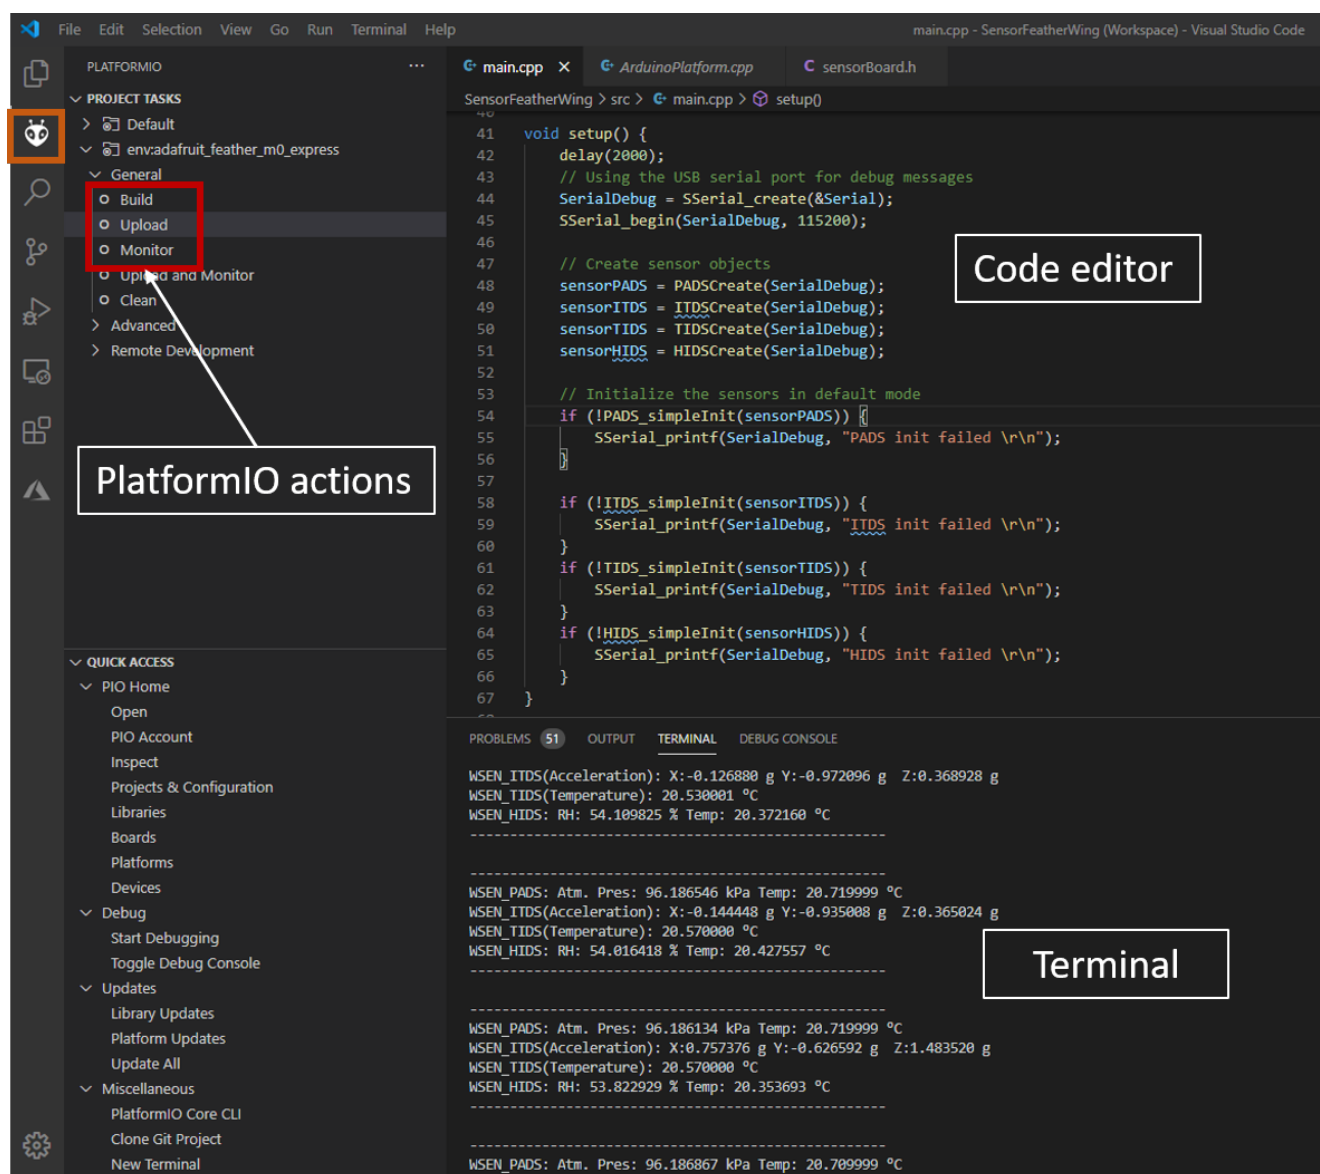

Figure 12: Running the quick start example
- Build and upload the code from the PlatformIO tab as shown in the Figure 12
- After successful upload, click on Monitor to view the debug logs in the serial terminal (see Figure 12).